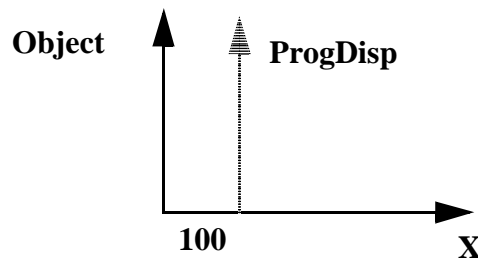

Figure 1 A 100 mm-program displacement along the x-axis.
- The ProgDisp coordinate system is displaced 100 mm from the object coordinate system, in the direction of the positive x-axis (see Figure 1).